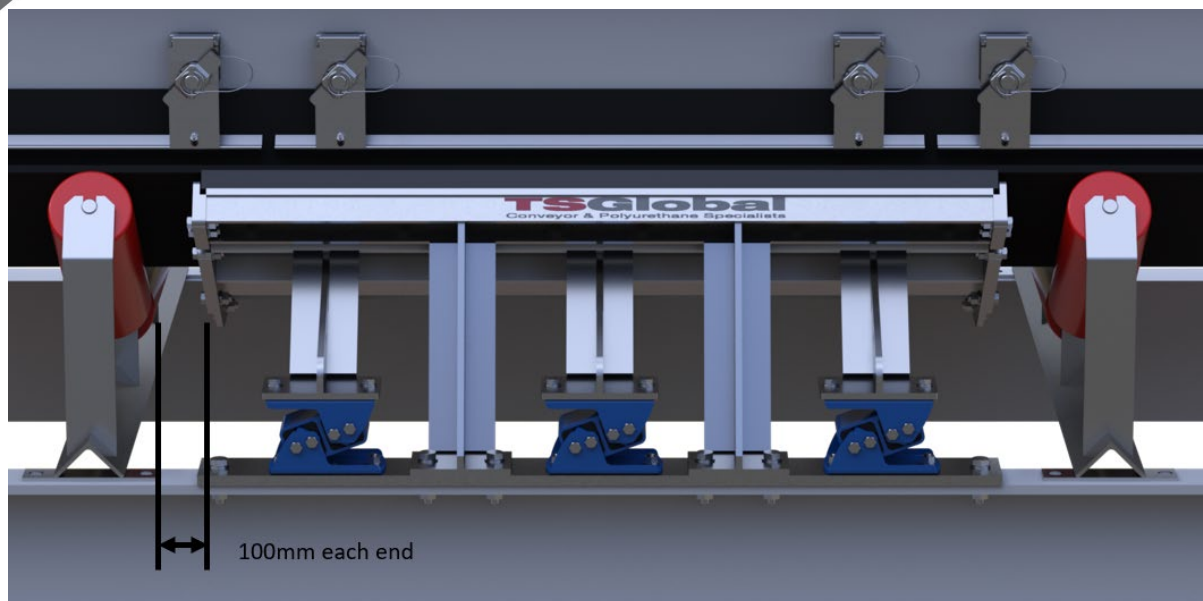

Figure 2: Final installation showing adjacent rollers
- Determine the install location and check for clearances (Fig. 2).